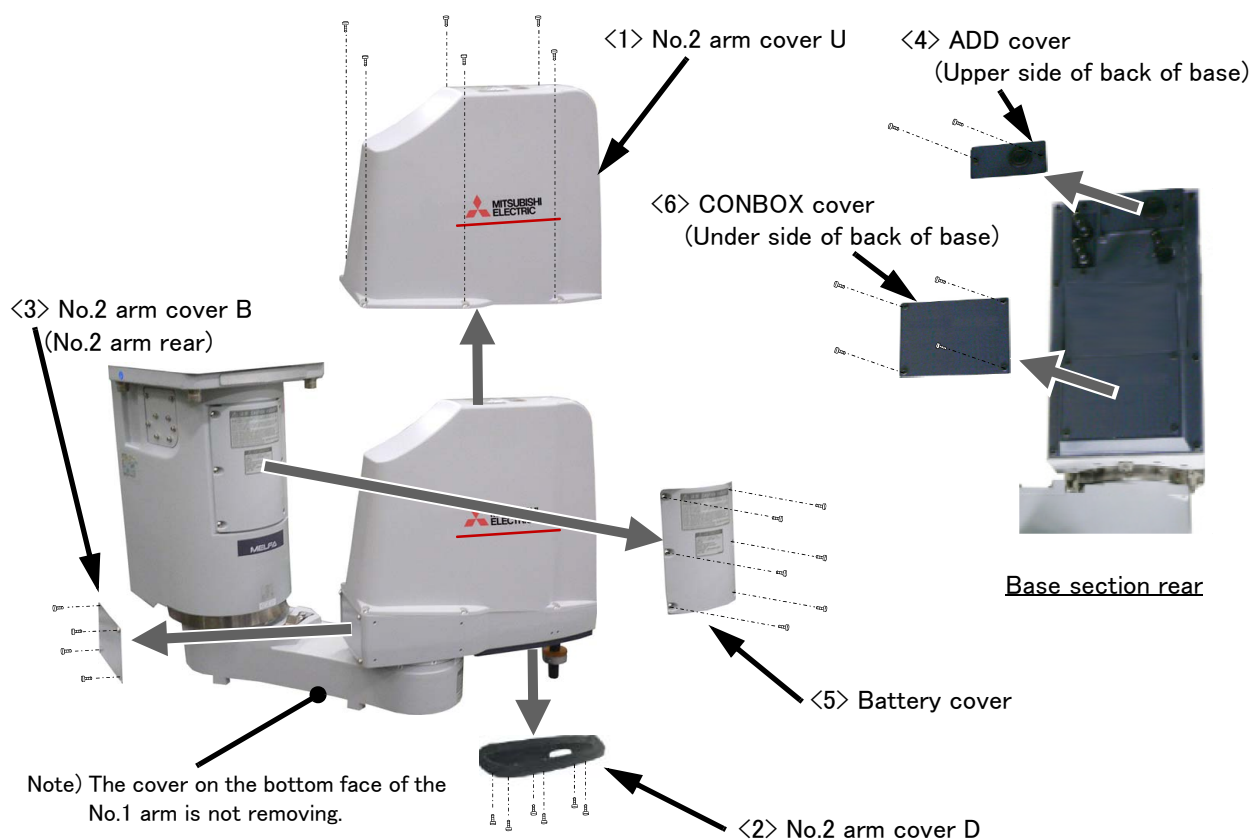

Fig.5-2 : Installing/removing the cover
- (1) Refer to Fig. 5-2, and remove the covers.
- (2) The names of the cover and installation screw are given in Table 5-4. The number in Table 5-4 correspond to Fig. 5-2.
- (3) When reattaching the covers after a maintenance inspection, proceed in the reverse order of their removal. Tightening the screw with the torque shown in Table 5-4.